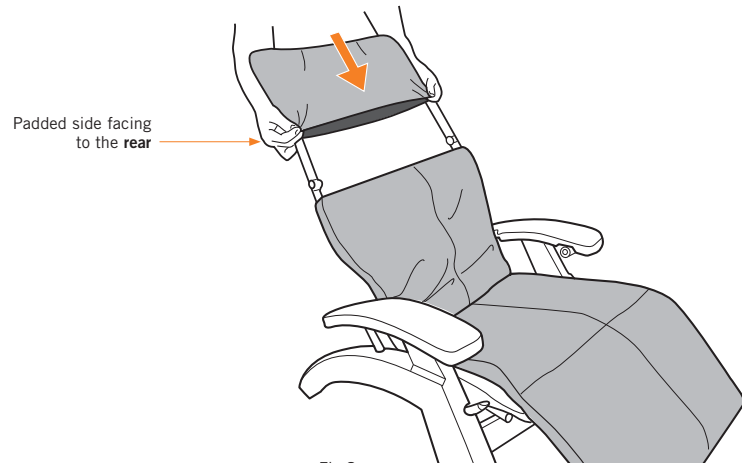

Fig.8
1. Slide the head sock over the headrest frame, with the padded side facing the to the rear (Fig.8).